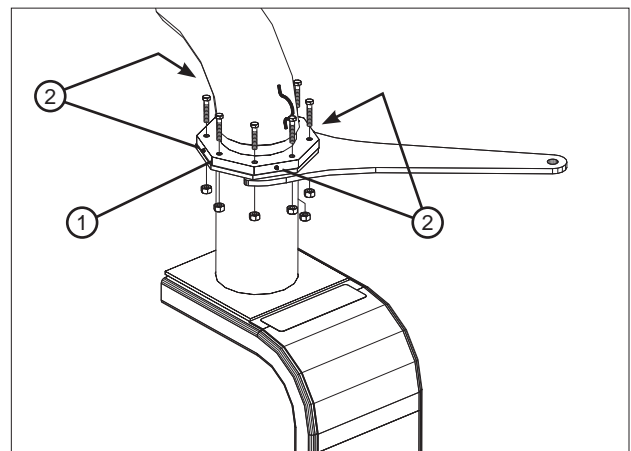

Figure 31-3
1. Lubricate the four grease fittings on each bearing flange. See figure 31-3.